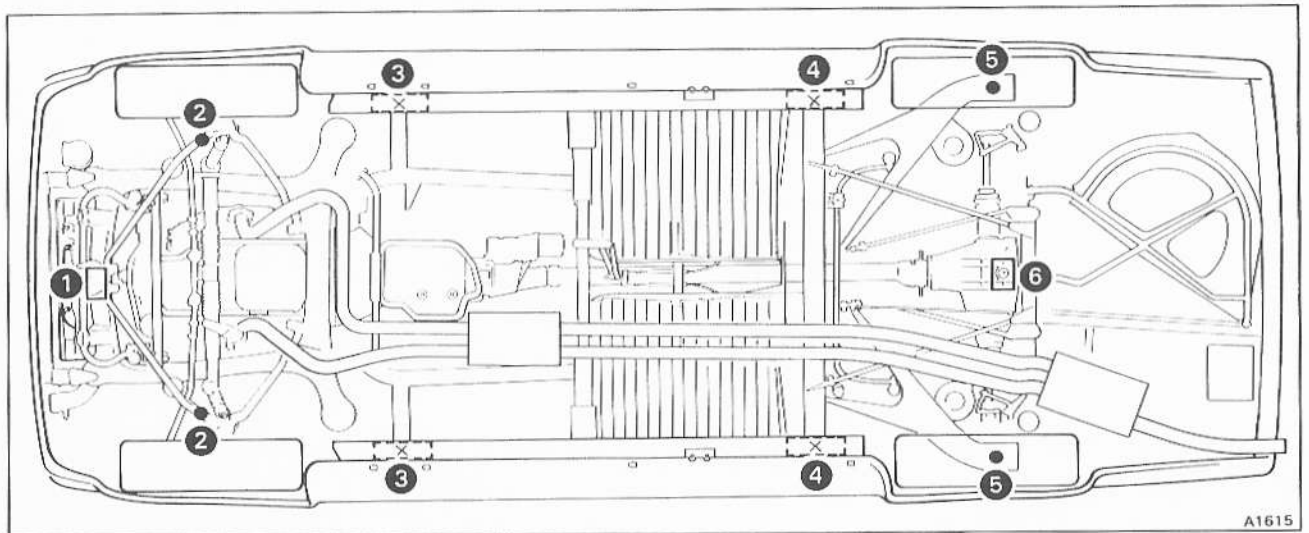
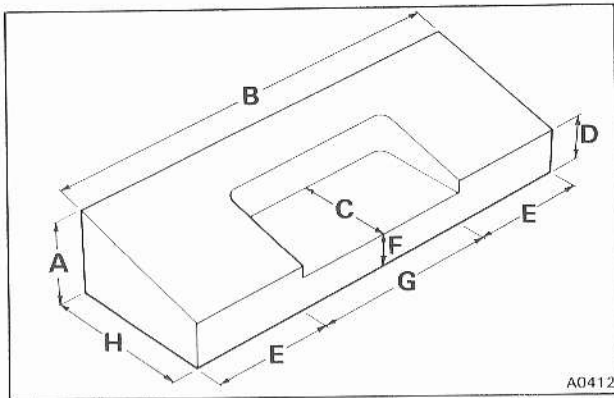

Fig. A8-1 Car jacking positions and support locations
Fig. A8-3 Hardwood sill block
To jack up the front of the car, position a trolley jack under the front pivot mounting for the lower triangle levers on the sub-frame (see fig. A8-1, item 1).
Alternatively, jack up the car using one of the two front jacking points situated on the car underbody (see fig. A8-1, item 3), utilizing the car jack.
To jack up the rear of the car, position a trolley jack under the centre of the final drive casing (see fig. A8-1, item 6), **not on the final drive crossmember**. Ensure a piece of hardwood is placed between the jack head and the final drive casing.
Alternatively, jack up the car using one of the two rear jacking points situated on the car underbody (see fig. A8-1, item 4), utilizing the car jack.
When jacking up the rear of the car to support on stands and/or blocks, follow the procedure described previously, then remove the road wheels. Place axle stands under the positions shown in figure A8-1, item 5.
When jacking up the front of the car, follow the procedure described previously, then place axle stands under the positions shown in figure A8-1, item 2. Remove the road wheels if necessary.
If all the car is to be supported on stands and/or blocks, the car body should also be supported using wooden sill blocks, etc., placed under the jacking points of the car (see fig. A8-1, items 3 and 4). Refer to figure A8-3 when producing these wooden sill blocks.